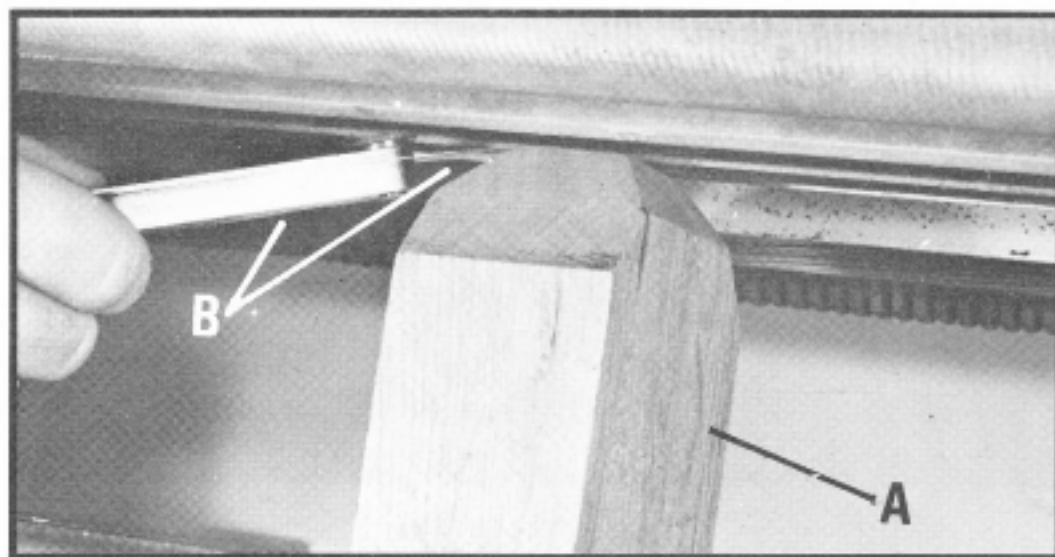

Fig. 23
3. Place gage block (A) Fig. 23, on the table directly underneath the cutterhead, as shown. Using a .011" feeler gage (B) Fig. 23, placed on top of the gage block, raise or lower the table until the knife just touches the feeler gage when the knife is at its lowest point. Do not move the table any further until the adjustment is completed.